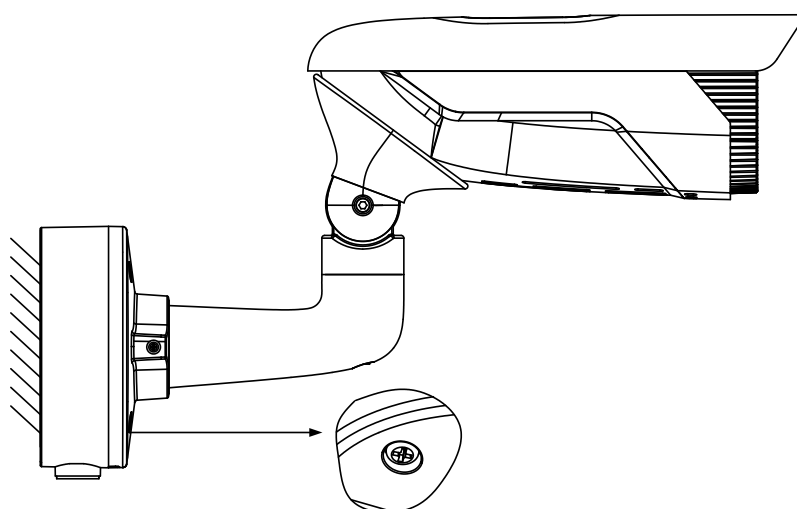

Figure 4-69 Tighten the Lock Screw
1. Drill the screw hole and cable hole according to the supplied drill template (as shown in Figure 4-69).